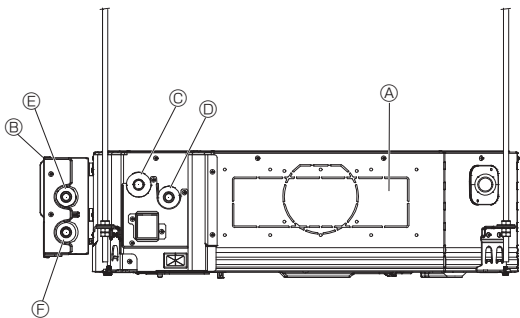

Fig. 4-10
1. Connect outlet pipe ⑤ of the indoor unit to inlet pipe ③ of the VALVE KIT with $\phi 22$ piping (procured locally). (Fig. 4-10)